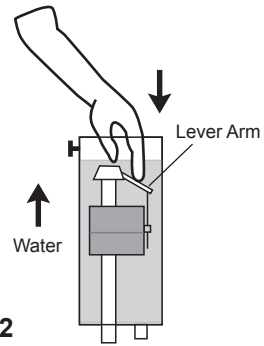

Figure 12
17) The KozyFill is now ready for operation. Remove the cap from the Canister and locate the float Lever Arm. Depress the Lever Arm so that water flows into the Canister (see Figure 12). Hold the Lever Arm down until the Canister is completely